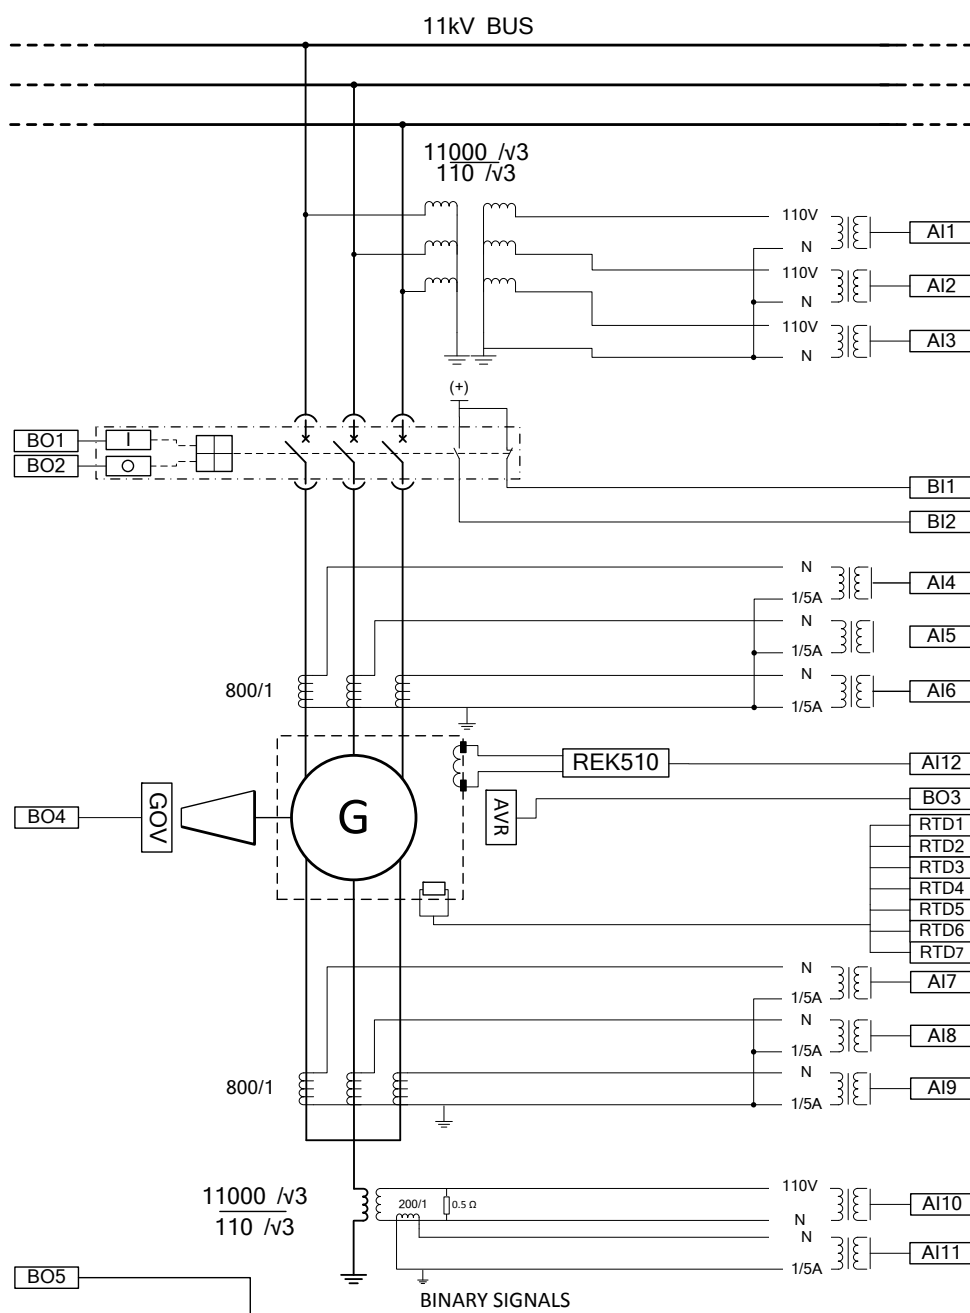

Figure 97: Relay interfaces, CT-VT, BI, BO and RTD connections for the generator of the example case
Figure 97 shows the connection details of the relay's analog inputs (AI), binary inputs (BI), binary outputs (BO) and RTD input. The CT and VT connections required for a comprehensive generator protection for the example case are also shown.